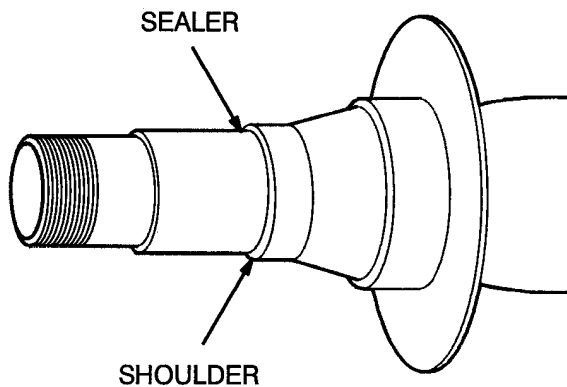

Figure 23 Putting Sealer on Spindle
1. Apply a thin coat of Loctite Gasket Eliminator (purple) to shoulder of the spindle. Place the seal assembly on the spindle so the words "DRY SIDE" face toward the brake backing plate. A slight step in the inside diameter of the seal will allow it to be placed by hand approximately 1/8 inch onto the shoulder of the spindle (Figure 23).